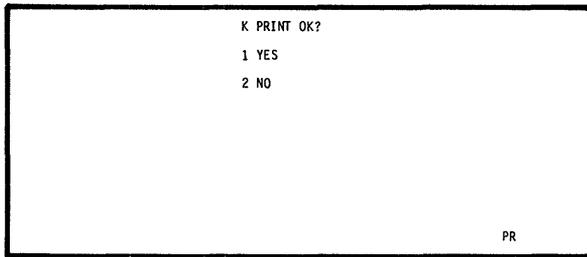

Fig. 14.25
– Screen shown in Fig. 14.25 is displayed.